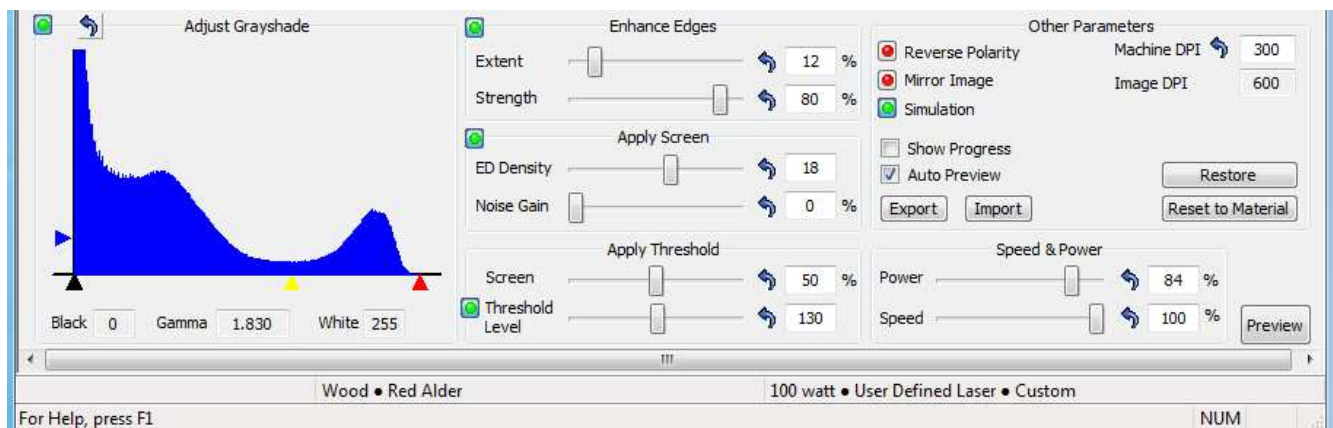

Fig. 1.6.2
2. Click the **Interactive Mode**  button located on the **Primary Functions Toolbar**. The **Interactive Mode** button should change to indicate that it is selected and the Parameter Adjustment view is displayed in the lower panel of the Session Window (see Fig. 1.6.2).